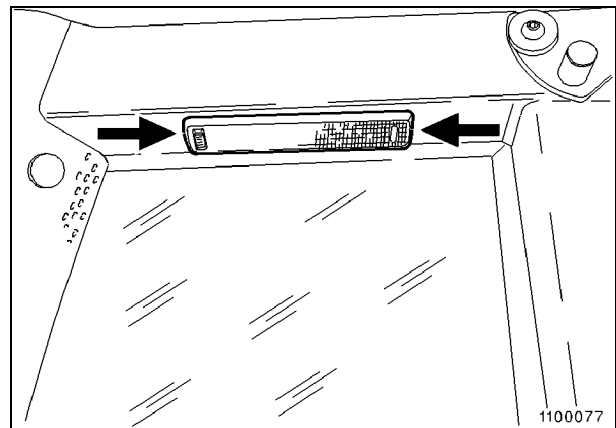

Fig. 5
- Unsnap the cover of the lamp and remove (Fig. 5).